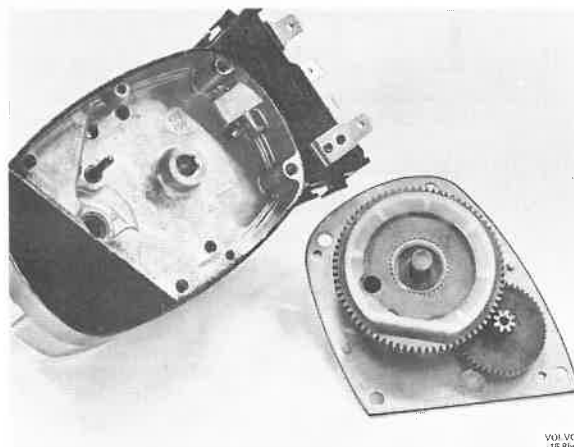

Fig. 36-16. Pinion housing with pinion and gear wheel
5. Remove the plate, gasket, gear wheel and pinion from the pinion housing, see Fig. 36-16.